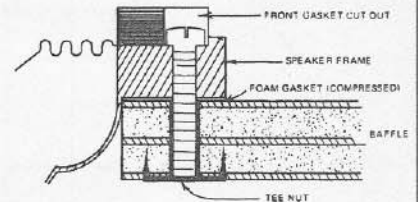

FIGURE 9
**IMPORTANT!** When front mounting, the screw head must fit down into the front gasket cutout. See Figure 9.